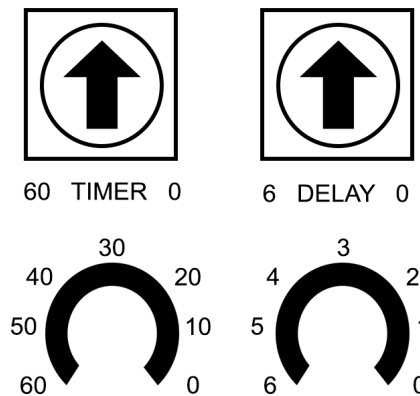

Figure 23
2. On the gate operator circuit board, adjust the delay by turning the DELAY knob from 0-6 seconds. Figure 23
2. On the gate operator circuit board, adjust the time by turning the TIMER knob from 1-60 seconds. Figure 23